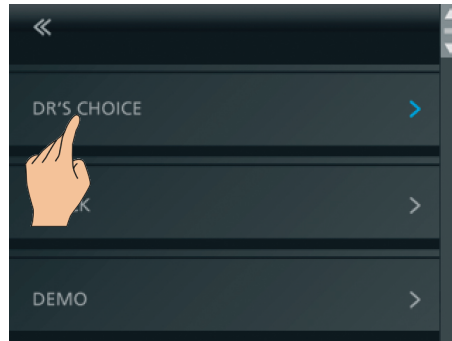

Fig. 21 Select DR'S CHOICE
- Enter the Settings Menu and select DR'S CHOICE (Fig. 21).